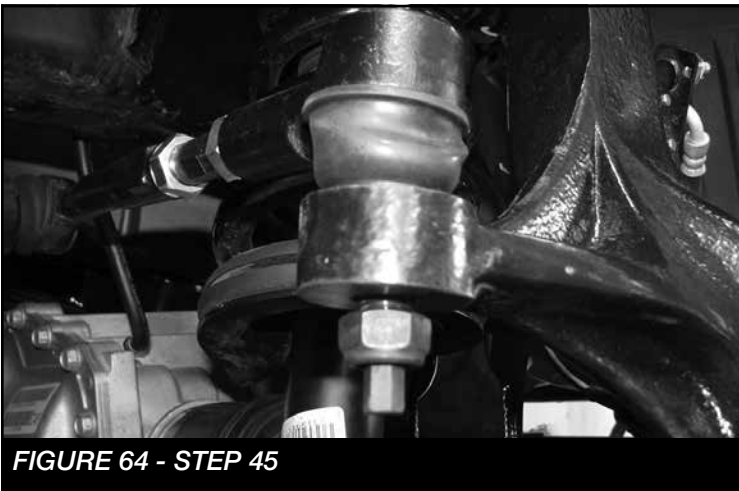

FIGURE 64 - STEP 45
45. Install the new tie rod assembly into the new knuckle. **SEE FIGURE 64** Torque to 58 ft-lbs.